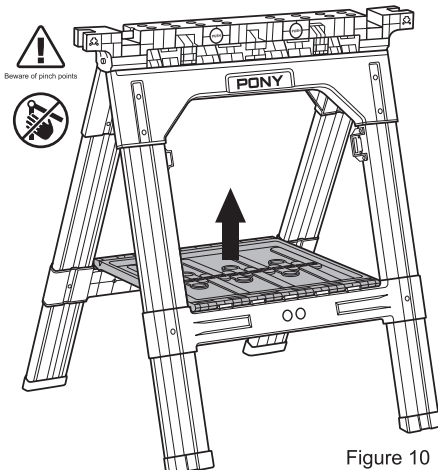

Figure 10
1. Lift the tool tray in the center to allow the legs to fold. (Figure 10)